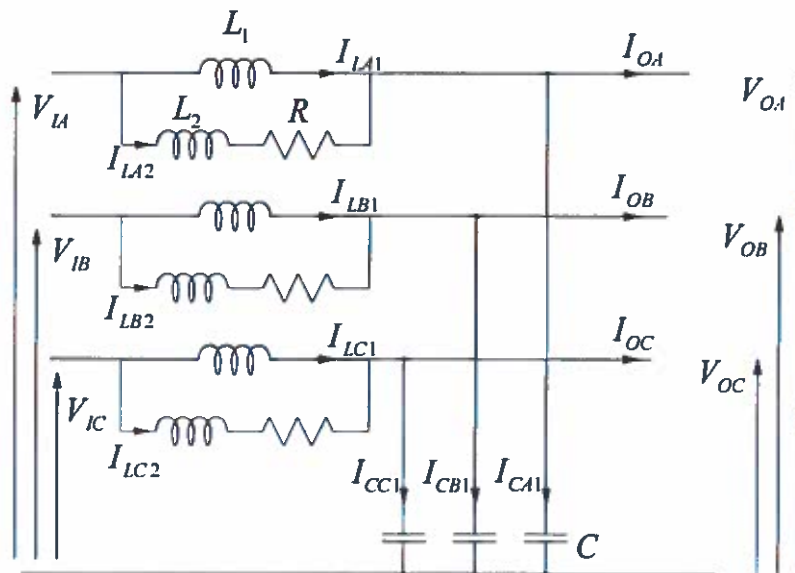
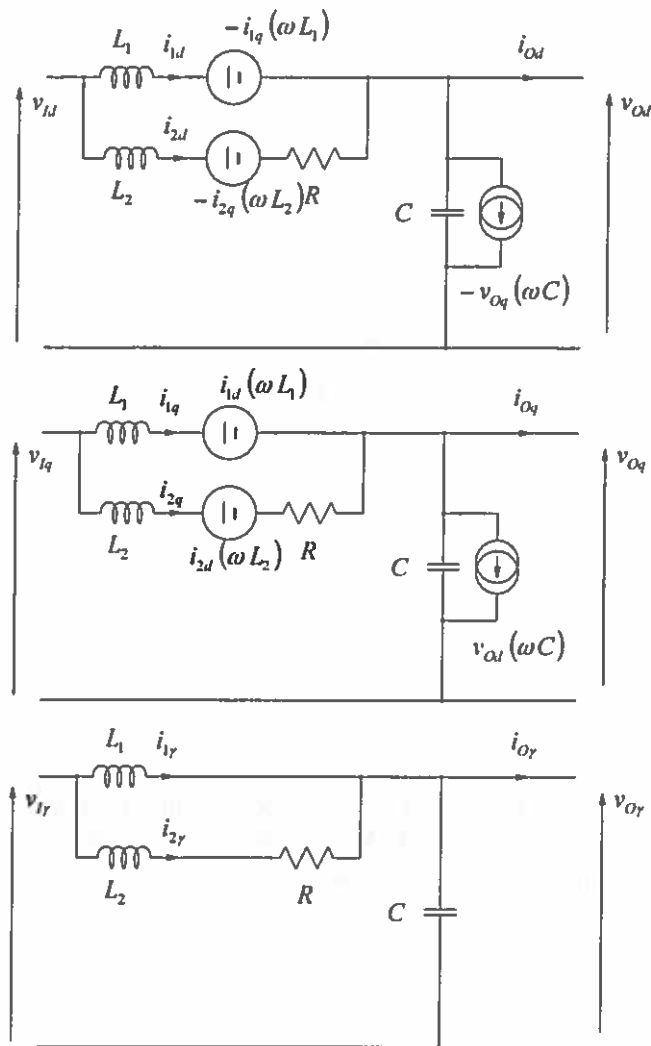

Figure 1.1 A three-phase low-pass filter.
Figure 1.2  $DQ\gamma$  representation of filter in Figure 1.1
- b) Figure 1.1 shows a three-phase low-pass filter. Figure 1.2 shows the same filter transformed to the equivalent  $DQ\gamma$  form. Justify the format of the transformed filter. [8]